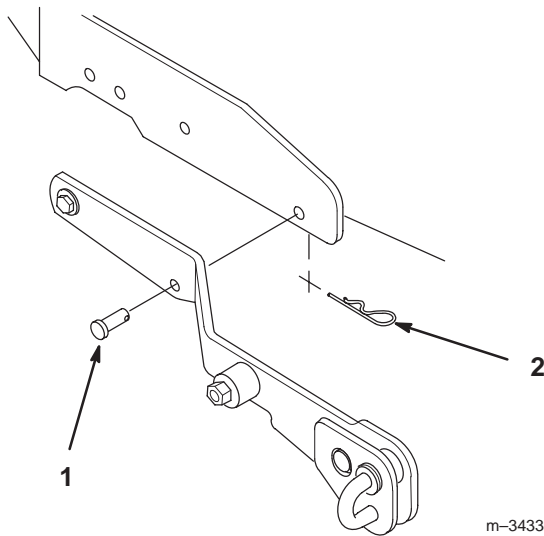

Figure 4
4. Install two 3/8 x 1 in. (25 mm) clevis pins into each side of the lift assembly in the positions shown in Figure 4. Secure with two small hairpin cotters.